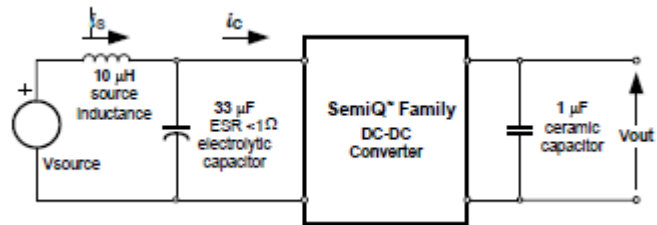

**Fig. 3.3V.14:** Test Setup for measuring input reflected ripple currents,  $i_c$  and  $i_s$
**Fig. 3.3V.1:** Available load current vs. ambient air temperature and airflow rates for SQ48T15033 converter with D height pins mounted vertically with Vin = 48V, air flowing from pin 3 to pin 1, and maximum FET temperature ≤ 120°C.
**Fig. 3.3V.3:** Available load current vs. ambient air temperature and airflow rates for SQ48S15033 converter mounted vertically with Vin = 48V, air flowing from pin 3 to pin 1, and maximum FET temperature ≤ 120°C.
**Fig. 3.3V.1:** Available load current vs. ambient air temperature and airflow rates for SQ48T15033 converter with D height pins mounted horizontally with Vin = 48V, air flowing from pin 3 to pin 1, and maximum FET temperature ≤ 120°C.
**Fig. 3.3V.4:** Available load current vs. ambient air temperature and airflow rates for SQ48S15033 converter mounted horizontally with Vin = 48V, air flowing from pin 3 to pin 1, and maximum FET temperature ≤ 120°C.
**Fig. 3.3V.5:** Efficiency vs. load current and input voltage for SQ48T/S15033 converter mounted vertically with air flowing from pin 3 to pin 1 at a rate of 300 LFM (1.5m/s) and  $T_a = 25^\circ\text{C}$ .
**Fig. 3.3V.6:** Efficiency vs. load current and ambient temperature for SQ48T/S15033 converter mounted vertically with  $V_{in} = 48\text{V}$  and air flowing from pin 3 to pin 1 at a rate of 200 LFM (1.0m/s).
**Fig. 3.3V.7:** Power dissipation vs. load current and input voltage for SQ48T/S15033 converter mounted vertically with air flowing from pin 3 to pin 1 at a rate of 300 LFM (1.5 m/s) and  $T_a = 25^\circ\text{C}$ .
**Fig. 3.3V.8:** Power dissipation vs. load current and ambient temperature for SQ48T/S15033 converter mounted vertically with  $V_{in} = 48\text{V}$  and air flowing from pin 3 to pin 1 at a rate of 200 LFM (1.0 m/s).
**Fig. 3.3V.9:** Turn-on transient at full rated load current (resistive) with no output capacitor at  $V_{in} = 48\text{ V}$ , triggered via ON/OFF pin. Top trace: ON/OFF signal (5 V/div.). Bottom trace: output voltage (1 V/div.). Time scale: 2 ms/div.
**Fig. 3.3V.10:** Turn-on transient at full rated load current (resistive) plus 10,000  $\mu\text{F}$  at  $V_{in} = 48\text{ V}$ , triggered via ON/OFF pin. Top trace: ON/OFF signal (5 V/div.). Bottom trace: output voltage (1 V/div.). Time scale: 2 ms/div.
**Fig. 3.3V.11:** Output voltage response to load current step-change (3.75 A – 7.5 A – 3.75 A) at  $V_{in} = 48\text{ V}$ . Top trace: output voltage (100 mV/div.). Bottom trace: load current (5 A/div.). Current slew rate: 0.1 A/ $\mu\text{s}$ .  $C_o = 1\ \mu\text{F}$  ceramic. Time scale: 0.2 ms/div.
**Fig. 3.3V.12:** Output voltage response to load current step-change (3.75 A – 7.5 A – 3.75 A) at  $V_{in} = 48\text{ V}$ . Top trace: output voltage (100 mV/div.). Bottom trace: load current (5 A/div.). Current slew rate: 5 A/ $\mu\text{s}$ .  $C_o = 450\ \mu\text{F}$  tantalum + 1  $\mu\text{F}$  ceramic. Time scale: 0.2 ms/div.
**Fig. 3.3V.13:** Output voltage ripple (20 mV/div.) at full rated load current into a resistive load with  $C_o = 10 \mu\text{F}$  tantalum +  $1 \mu\text{F}$  ceramic and  $V_{in} = 48 \text{ V}$ . Time scale:  $1 \mu\text{s}/\text{div}$ .
**Fig. 3.3V.15:** Input reflected ripple current,  $i_c$  (100 mA/div.), measured at input terminals at full rated load current and  $V_{in} = 48 \text{ V}$ . Refer to Fig. 3.3V.14 for test setup. Time scale:  $1 \mu\text{s}/\text{div}$ .
**Fig. 3.3V.16:** Input reflected ripple current,  $i_s$  (10 mA/div.), measured through  $10 \mu\text{H}$  at the source at full rated load current and  $V_{in} = 48 \text{ V}$ . Refer to Fig. 3.3V.14 for test setup. Time scale:  $1 \mu\text{s}/\text{div}$ .
**Fig. 3.3V.17:** Output voltage vs. load current showing current limit point and converter shutdown point. Input voltage has almost no effect on current limit characteristic.
**Fig. 3.3V.18:** Load current (top trace, 20 A/div., 20 ms/div.) into a 10 mΩ short circuit during restart, at Vin = 48 V. Bottom trace (20 A/div., 1 ms/div.) is an expansion of the on-time portion of the top trace.